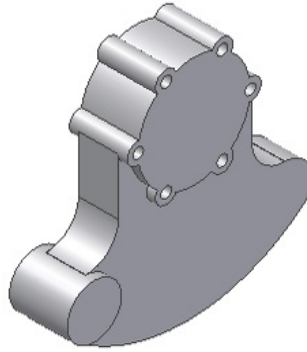

Figure 6-139 The cylindrical join feature
2. Exit the sketching environment and then extrude the circle to a distance of 32 mm using the **Symmetric** option, refer to Figure 6-139.